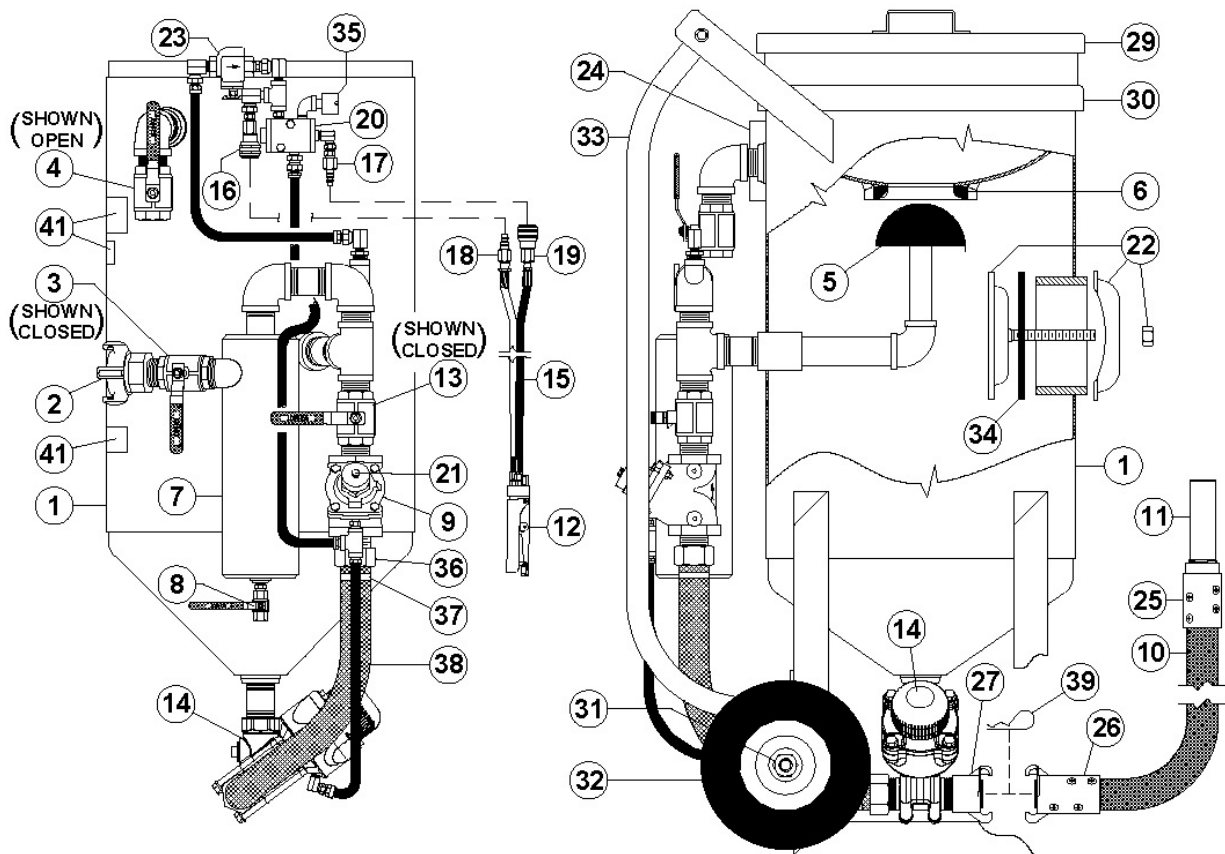

Figure 7.2 – Thompson Valve Abrasive Blaster with pneumatic deadman controls
7.2 Beginning the Blasting Operation (See Figure 7.2)